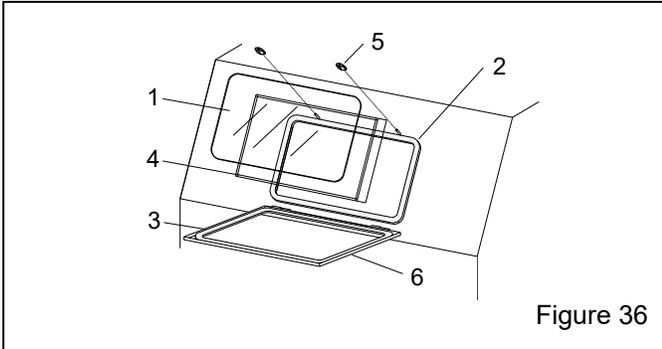

Figure 36
**9.5 View-Window Assembly – Figure 36**